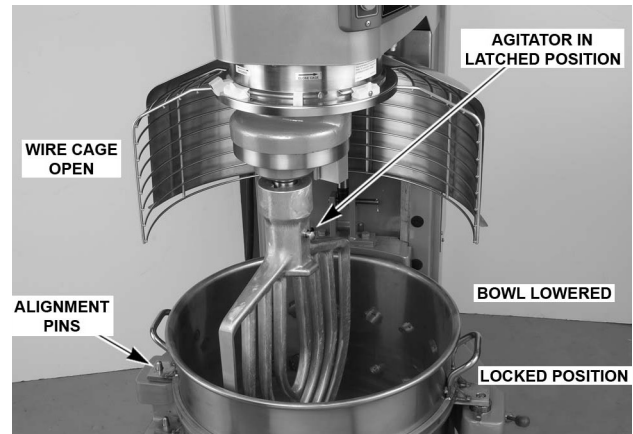

Fig. 5
3. Swing the bowl into the locked position on bowl support (Fig. 5).
3. Slide the agitator up the agitator shaft until it stops and latches (Fig. 5).